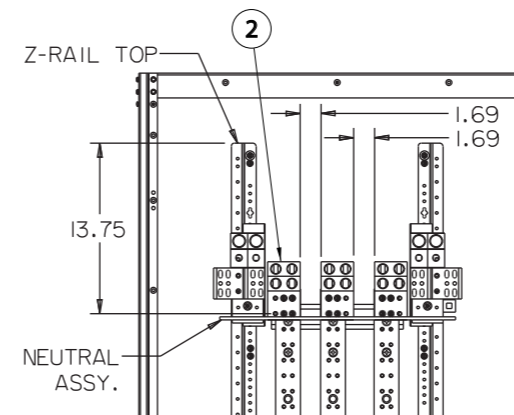
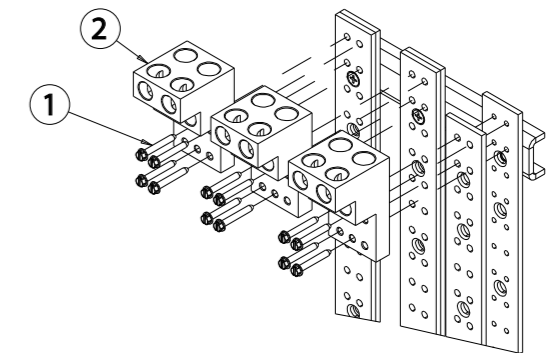

Figure 2
Figure 3
- Reference fig. 2 - Lug elevation. To locate the lug mounting position measure 13.75" from top (or bottom for bottom feed applications) of the Z-rail. Mark position on Z-rail. This marked location will align with 0.228" holes on the section bus. Note: Lugs are installed on the end of the section bus closest to neutral assembly.
- Reference fig. 3 - Installing lugs. Align lower holes on lug (item 2) with holes on A phase section bus defined in step 3. Use 4 hole pattern in lug (item 2) that results in a 1.69" minimum clearance between lug and section bus as shown in Fig 2. Insert four 1/4-20 X 1-3/4" screws (item 1) through lug and into section bus. Torque screws to requirements shown on back of deadfront cover. Repeat steps for B & C phase lugs ensuring 1.69" clearance between lugs and section bus.